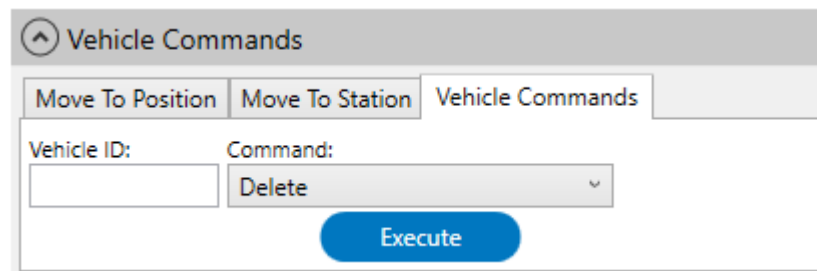

Figure 2-48: Vehicle Commands – Vehicle Commands, Delete
*The **Vehicle Commands** tab is displayed as shown in Figure 2-48. The Command Menu defaults to Lock or the last command selected.*